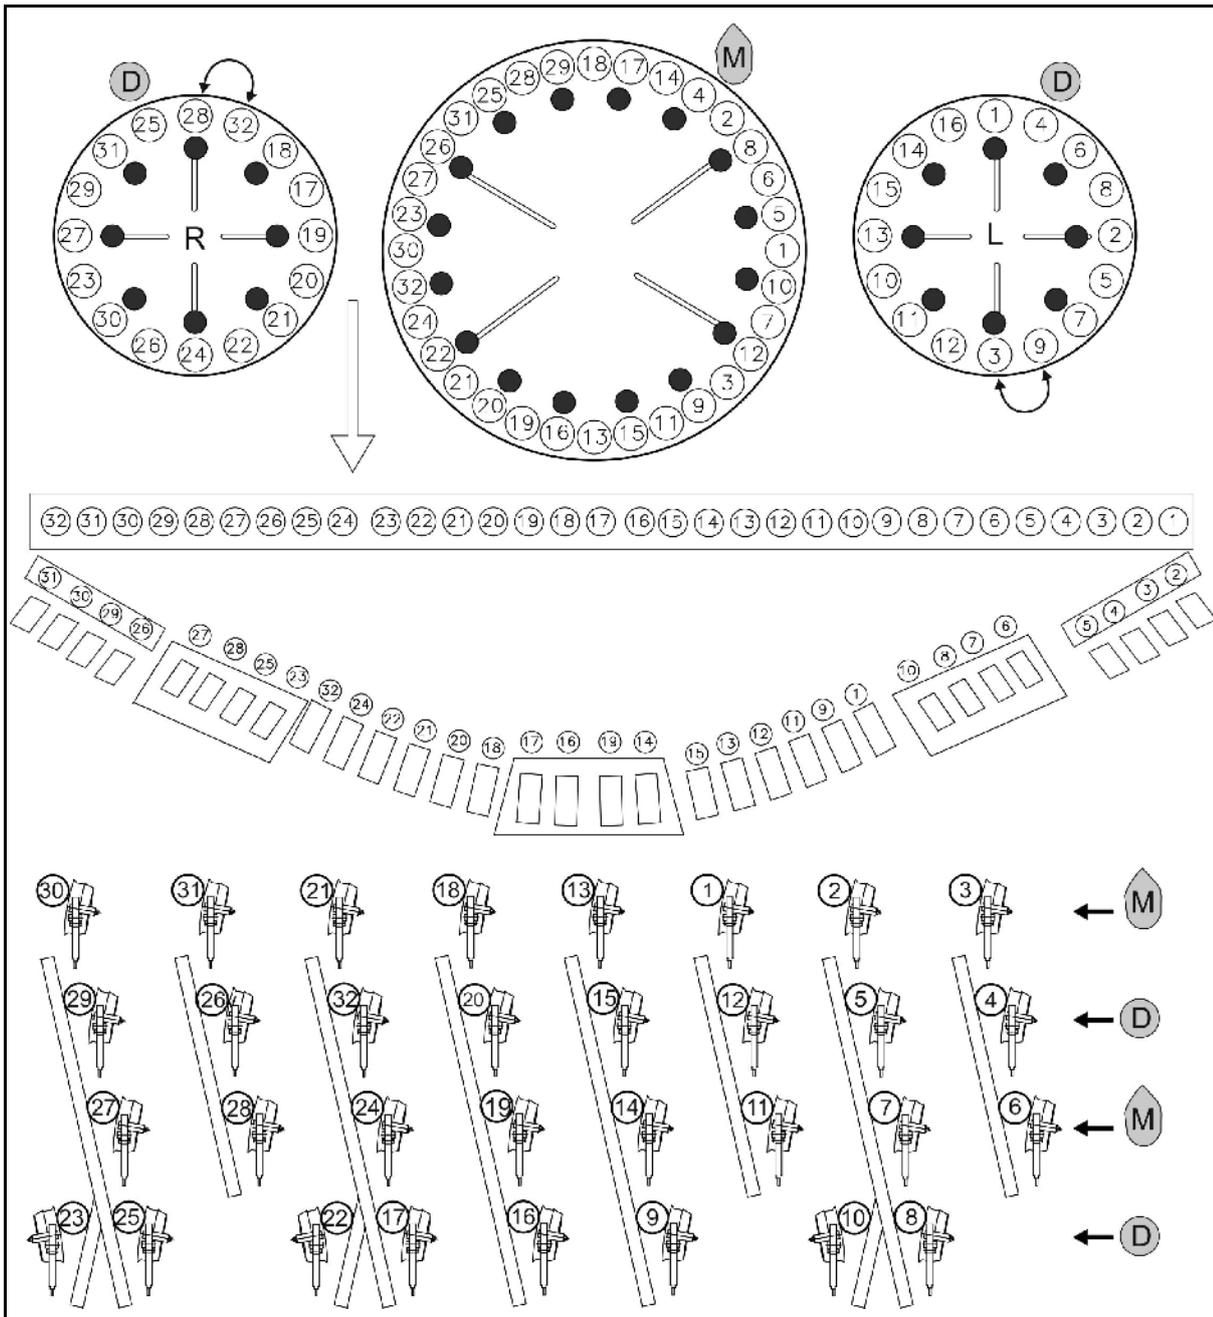

Fig. 50
- Maize M: Install the sealing plugs according to Fig. 50.
- Fertiliser D: Install the sealing plugs according to Fig. 50.